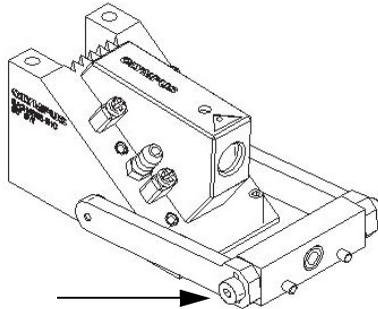

Figure 4-5 The screw that secures the yoke assembly
7. Using a hexagonal key, remove the screw (on the side of the yoke) that holds the parts together (see Figure 4-5 on page 34).